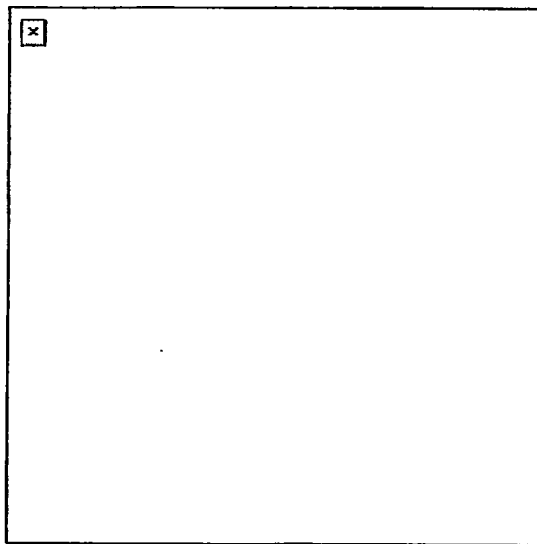

Figure 3. Insertion of pintle into pintle bushing.
- b. Place the MK64 gun mount pintle into the tripod (Figure 3) until it sits flush on the tripod head. Flip down the pintle lock on the tripod.